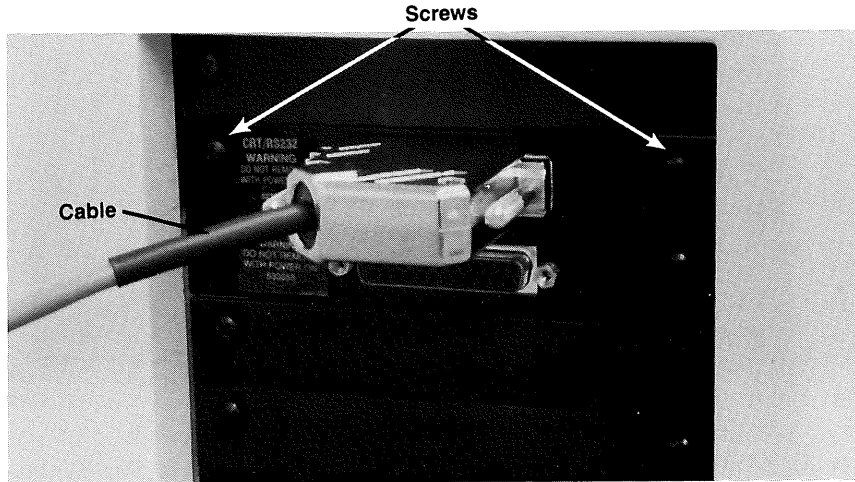

Figure E1.
2. Locate the board labelled “CRT/RS232” installed in the accessory slots on the left-hand side of the instrument. See Figure E1.